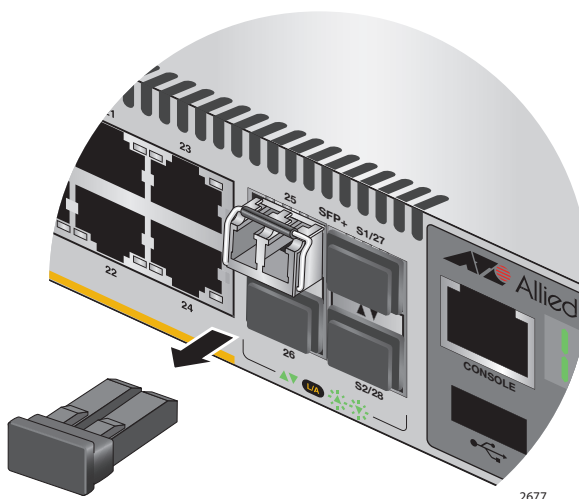

Figure 66. Removing the Dust Cover from an SFP or SFP+ Transceiver
5. Remove the dust cover from the transceiver, as shown in Figure 66.